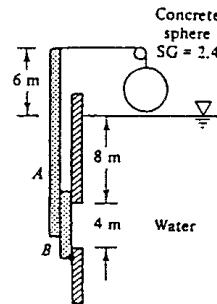

Fig. P2.71
**2.71** In Fig. P2.71 gate AB is 3 m wide into the paper and is connected by a rod and pulley to a concrete sphere ( $\text{SG} = 2.40$ ). What sphere diameter is just right to close the gate?